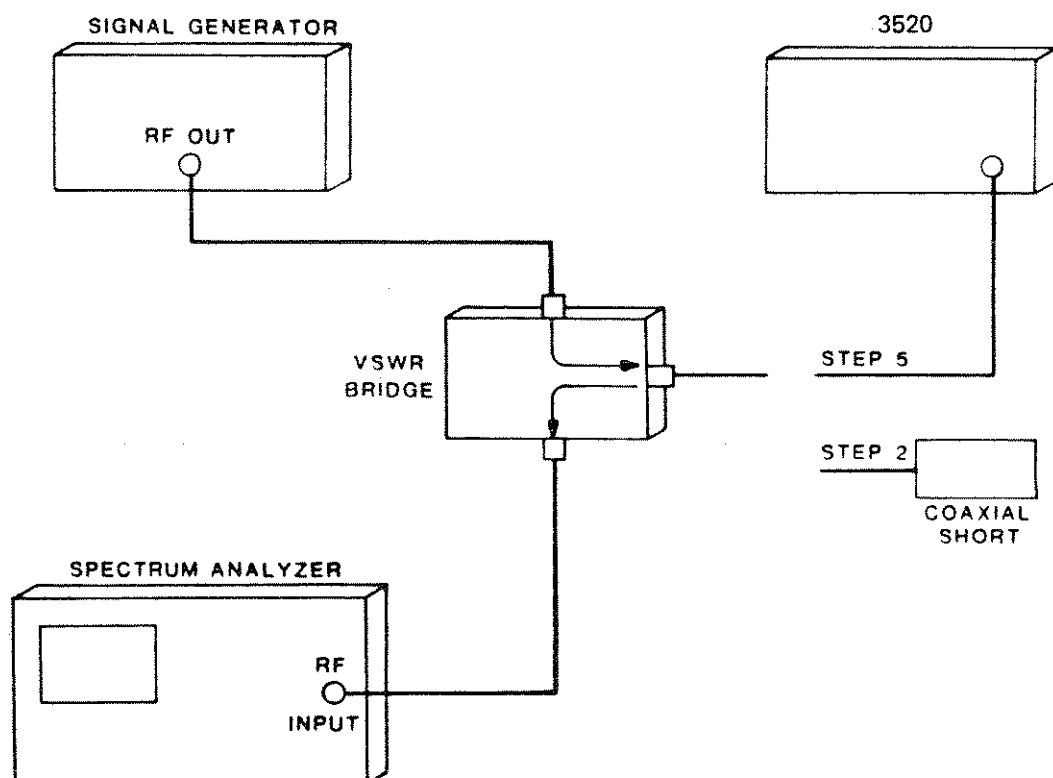

Figure 4-4. Setup for Impedance Test
1. Connect the equipment as shown in Figure 4-4. Connect the signal generator to the input port, the spectrum analyzer to the reflected output port, and the coaxial short to the device-under-test port of the VSWR bridge.